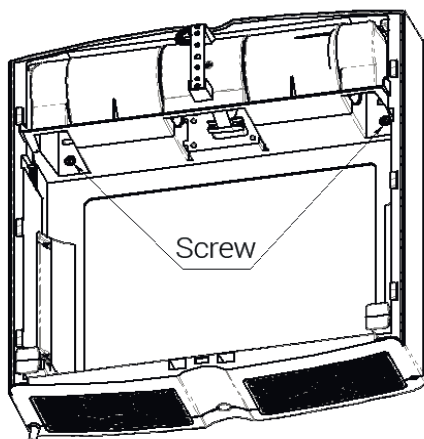

Figure 9. Location of mounting plate screws
- Loosen the screws indicated in Figure 9;
- Fasten the screws shown in Fig. 9
- Fasten the screws shown in Fig. 9.